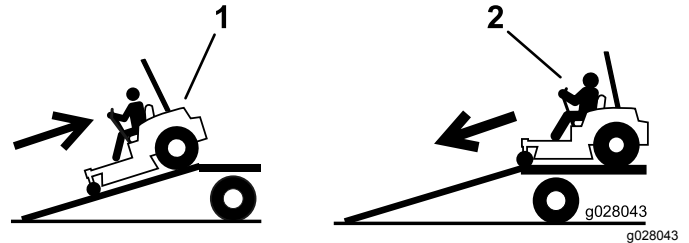

Figure 44
4. Back the machine up the ramp (Figure 44).
2. Drive the machine forward down the ramp (Figure 44).